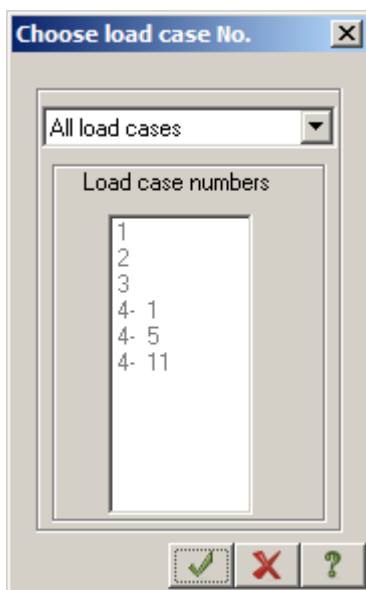

Figure 4.37 **Choose load case No.** dialog box
- ⇒ In the **Choose load case No.** dialog box (see Fig.4.37), select **All load cases** option and click **OK** .